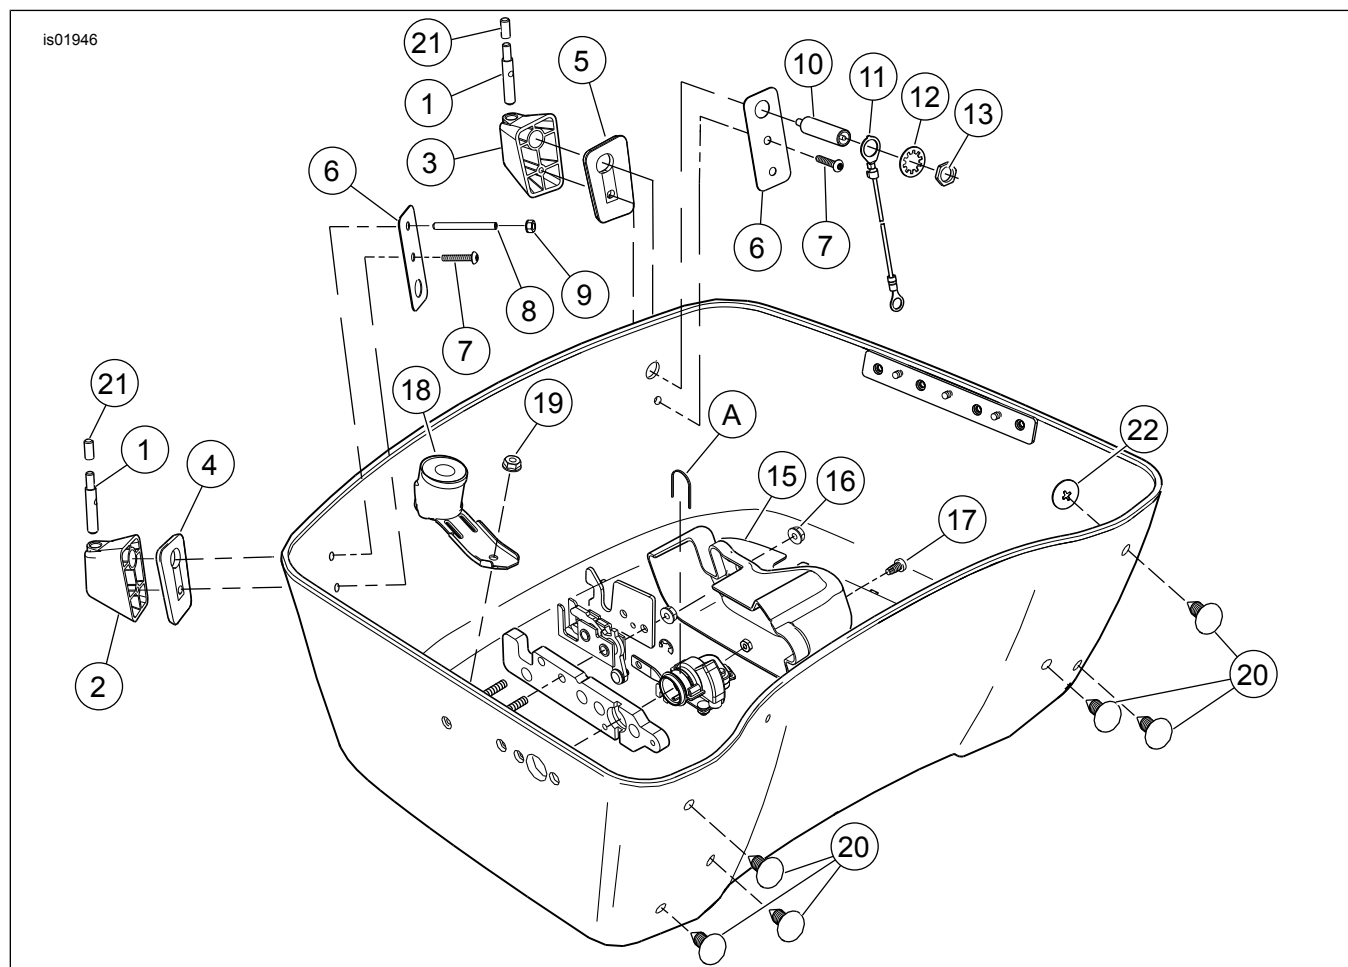

Figure 6. Service Parts for Tour-Pak Installation Kit (Bottom)
13. See Figure 6. Install six hole plugs (20) into the six holes on the forward side of Tour-Pak as shown, then install six retaining washers (22) over the ends of the hole plugs.